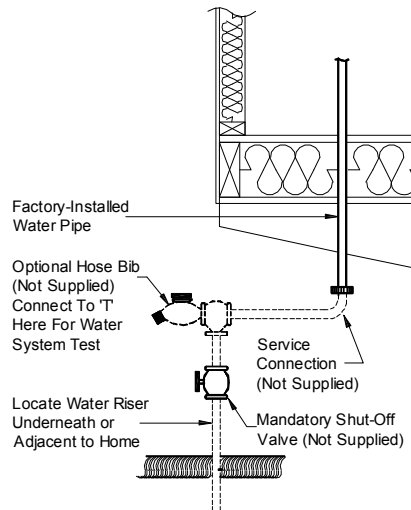

Figure 93. Water system connection
To connect the home's water system to the water source, identify the water inlet located under the home (usually below the water heater compartment or utility room) and follow the procedure described below (refer to **Figure 93**).
3. **Pressurize system.** Connect a hydrostatic pump, valve, and gauge to the location shown in **Figure 93**. Pressurize the system with water at 100 psi, and then isolate it from the pressure source. Bleed all air from the highest and farthest points in the system.